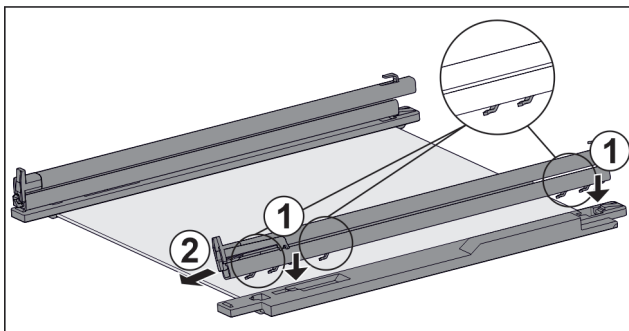

Fig. 138 Glass shelf with rails and retaining parts
- ▶ Place rail hooks onto the openings of the **left** retaining part. Fig. 138 (1)
- ▶ Push rail forwards. Fig. 138 (2)
- ▶ Place rail hooks onto the openings of the **right** retaining part. Fig. 138 (1)